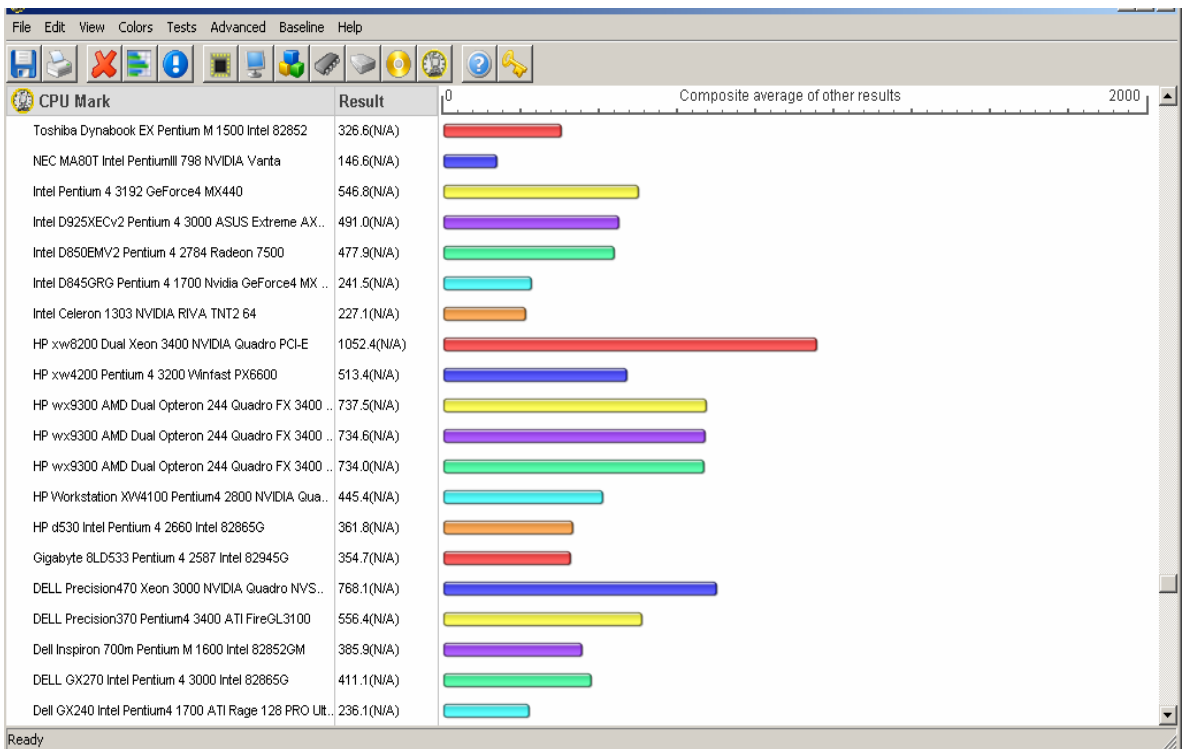

Figure 8.26 CPU PERFORMANCE FOR CPU MARK
**More detailed results:** - By using the advanced disk testing window it is possible to examine the performance of the disk in more detail. Figure 8.26 to 8.32 shows advanced disk test suit performance chart and comparison for different types of CPUs.